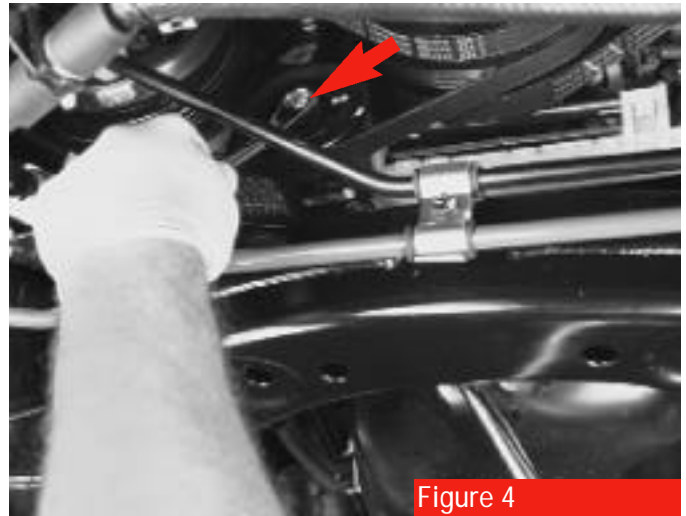

Figure 4
4. Loosen the pinch nut in the center of the A/C compressor belt pulley and loosen the adjuster bolt enough to loosen the belt (**see arrow, figure 4**).